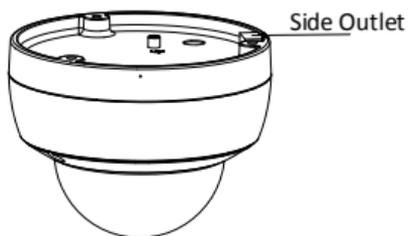

Figure 2-4 Side Outlet
- You can also route cable from the side outlet as shown in Figure 2-4.